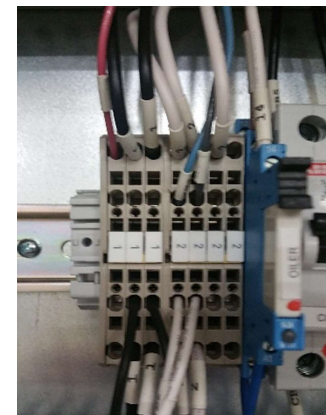

Figure 4
- a. Check 110v AC on the secondary side of the 110 transformer, or between terminal blocks 1 & 2. See Figures 4 and 5 (The secondary AC voltage must be between 110 and 125 VAC )
5. Check fiber optic cable for breaks in the cable also that both ends are plugged in one end to the ncb board (in front panel see figure 4) and the other end to the interface (in the back cabinet see figure 5)
Figure 4 front panel fiber optic cable location